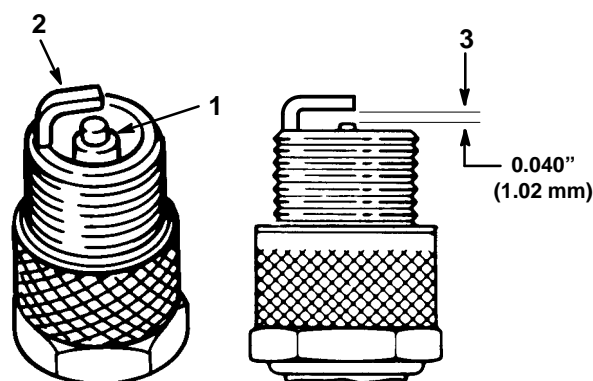

Figure 22
1. Look at the center of the spark plug(s) (Fig. 22). If you see light brown or gray on the insulator, the engine is operating properly. A black coating on the insulator usually means the air cleaner is dirty.
2. Check the gap between the center and side electrodes (Fig. 22). Bend the side electrode (Fig. 22) if the gap is not correct.